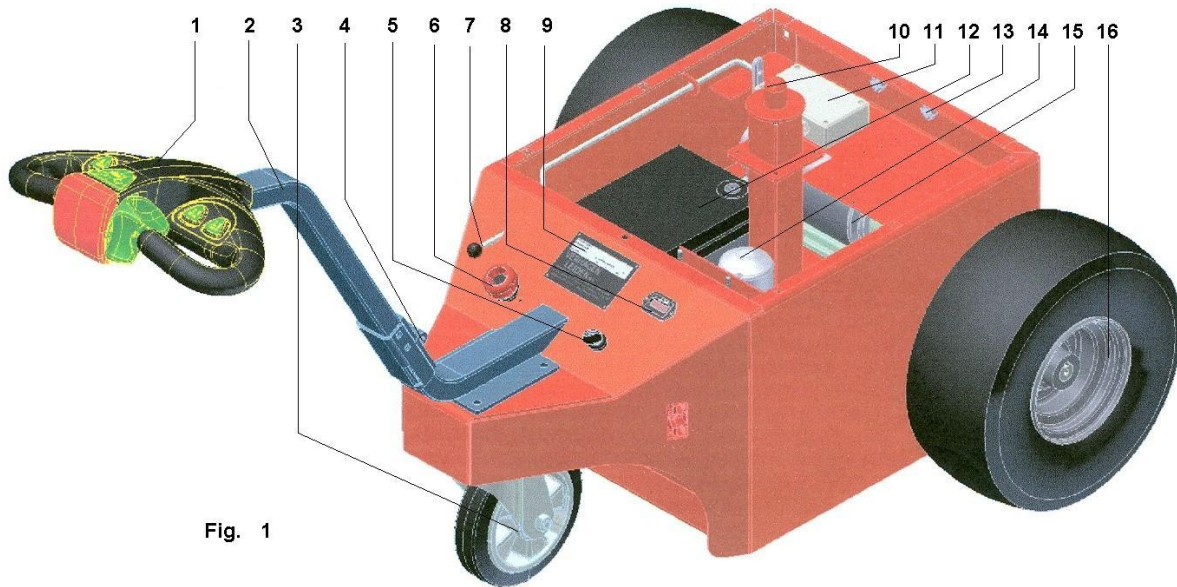

Fig. 1
5.3 Operation (see photo, fig. 1)
The ignition lock (5 fig. 1) is used to switch off the batteries, **always switch off the battery in case of maintenance to the V-move XL.**